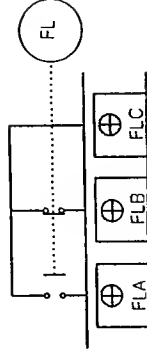

Figure 8.2 Terminals for the Fault Detection Signal
When the protective function operates and the inverter trips the trip cause will be shown on the LED monitor display. This is a visual confirmation of a trip. The fault relay provides electrical confirmation and indication of a tripped condition. The fault detection signal is output at the (FL) relay contact points. See Figure 8.2 below.